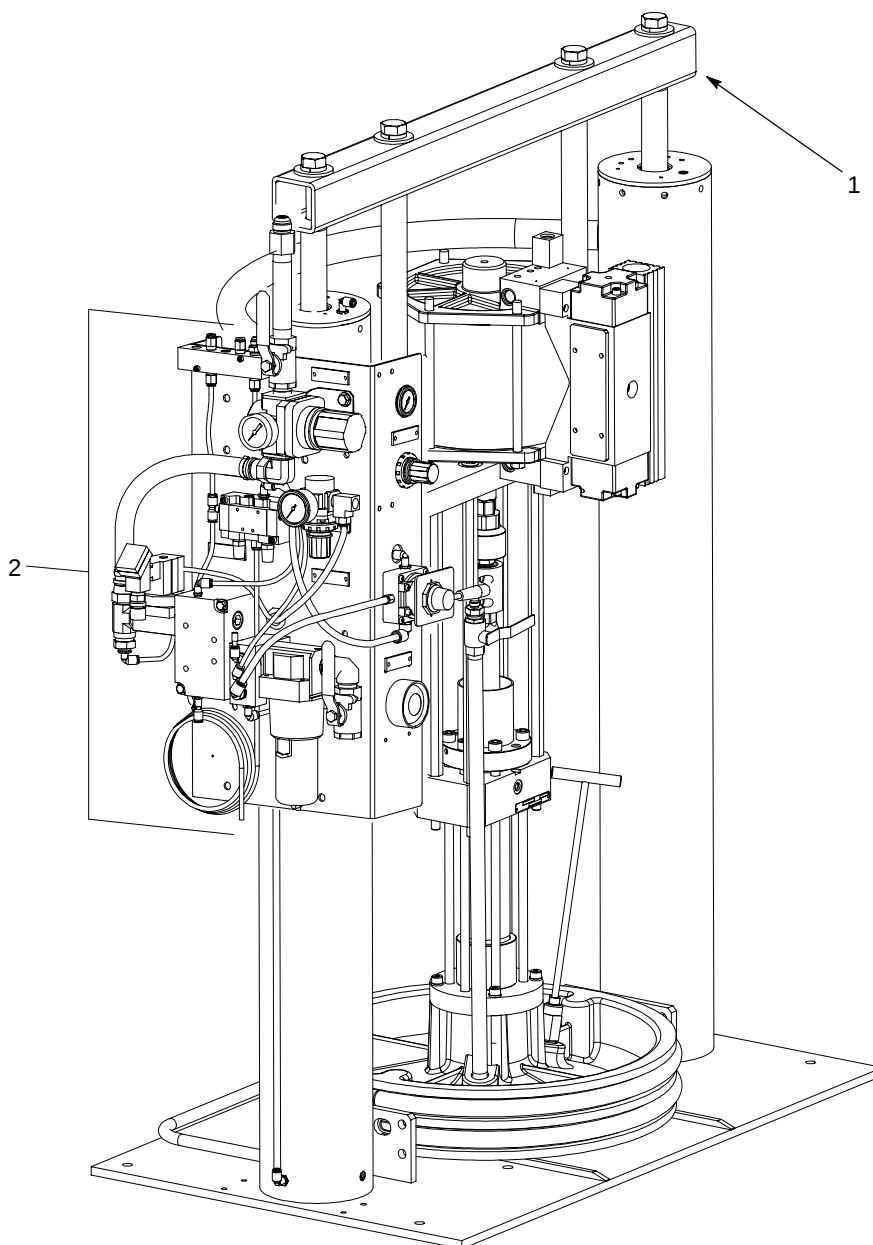

Figure 1 Control Module (Large Frame Rhino SD/XD Bulk Unloader Shown)
See Figure 1. The Control Module (1) provides the pneumatic operating functions for Rhino SD/XD bulk unloaders (2). It mounts to the side of small and large frame Rhino SD/XD bulk unloaders.